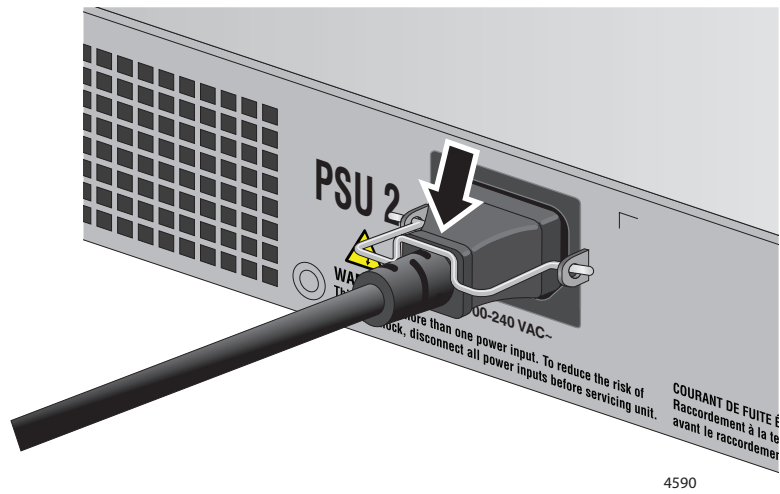

Figure 69. Lowering the Power Cord Retaining Clips
3. Lower the power cord retaining clips to secure the cords to the switch. Refer to Figure 69.